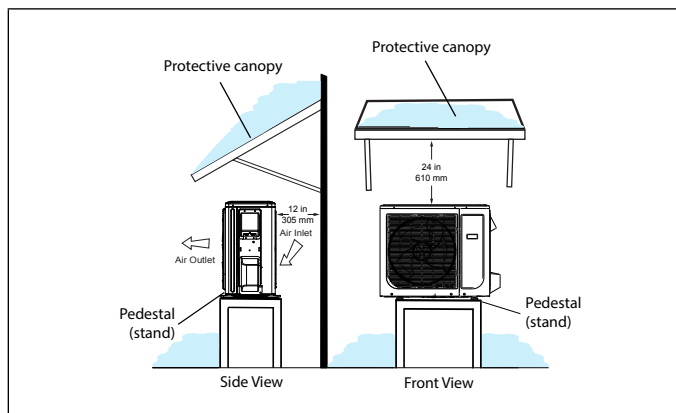
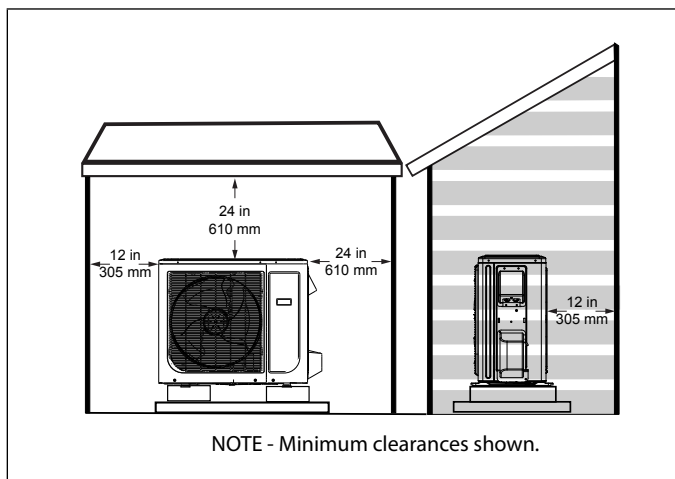

Figure 6. Outdoor Unit on Pedestal (Stand) and Protective Canopy
Figure 11. Dog House-Style Shelter
- The construction of a canopy or shade is suggested when the outdoor unit is placed in direct sunlight all day with temperatures exceeding 100°F (38°C). This is necessary because of an ambient limit control set to 122°F (50°C) to protect the electronics. If the outdoor unit is placed in direct sunlight it is possible that the limit may activate and shut down the unit. A canopy is recommended as illustrated in “Figure 6. Outdoor Unit on Pedestal (Stand) and Protective Canopy” on page 21 or “Figure 11. Dog House-Style Shelter” on page 22.
- Place outdoor unit away from overhanging roof lines which would allow water or ice to drop on, or in front of, coil or into unit. Construct a canopy as illustrated in “Figure 6. Outdoor Unit on Pedestal (Stand) and Protective Canopy” on page 21.
- Outdoor unit can be installed in a dog house style shelter as illustrated in "Figure 11. Dog House-Style Shelter".